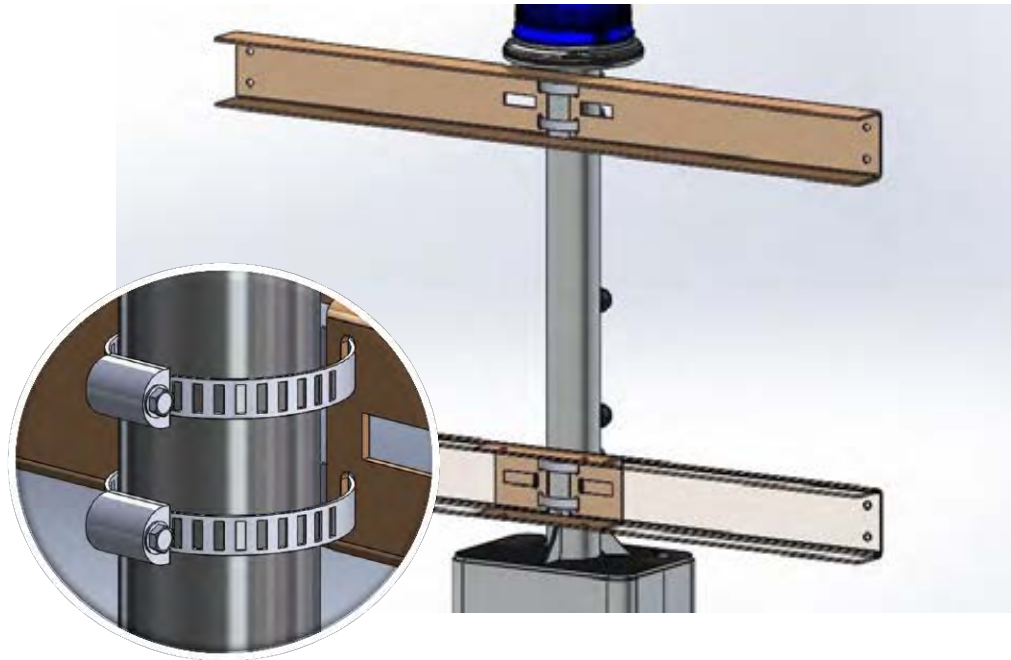

Figure 7. Mounting buckets attached to the pole using hose clamps
6. To install the bucket brackets, thread each hose clamp through one of the sets of narrow center holes as shown in **Figure 7**. Place the buckets at the desired location on the pole approximately 18 inches apart. The spacing can be adjusted later. Tighten the hose clamp screws to **70 in-lbs**.